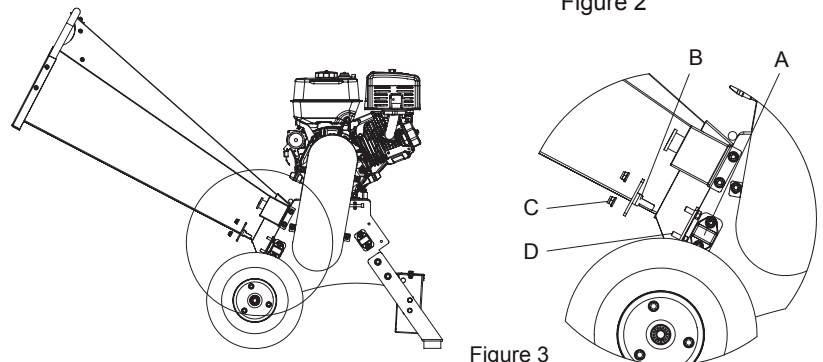

Figure 3
**INSTALL INSERTING PIECE - FIG 3**
1. Insert the Inserting piece (B) into the slot of the safety switch box (A).
2. Fix the Inserting piece with the two M8x16 flange bolts (C) and two flange M8 nuts (D).